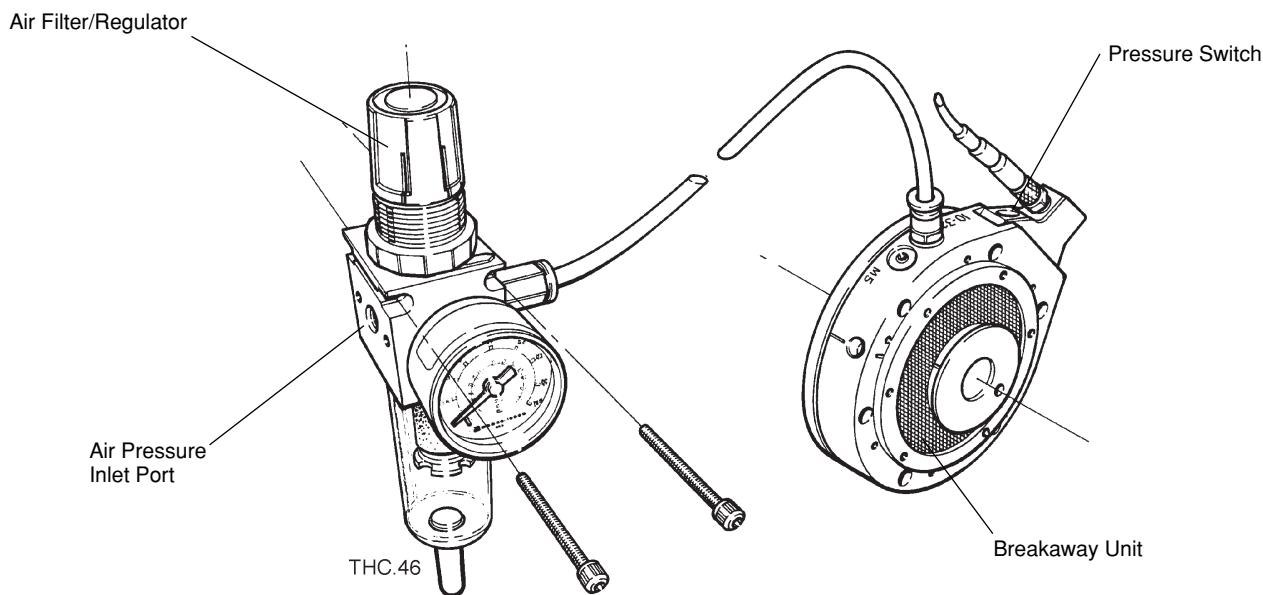

Figure 2-6 Robotic lifter breakaway option
- **Torch breakaway kit (optional)** (Figure 2-6) The torch breakaway (collision sensor) provides a level of protection for the torch, lifter and robotic system. Air pressure locks the THC lifter assembly to the robot mount. The air pressure can be adjusted to change the force required to trip the breakaway. Upon side impact, the breakaway releases from the lock position and allows the torch to float. See Figure 2-4 for torch mounting dimensions with and without the breakaway.